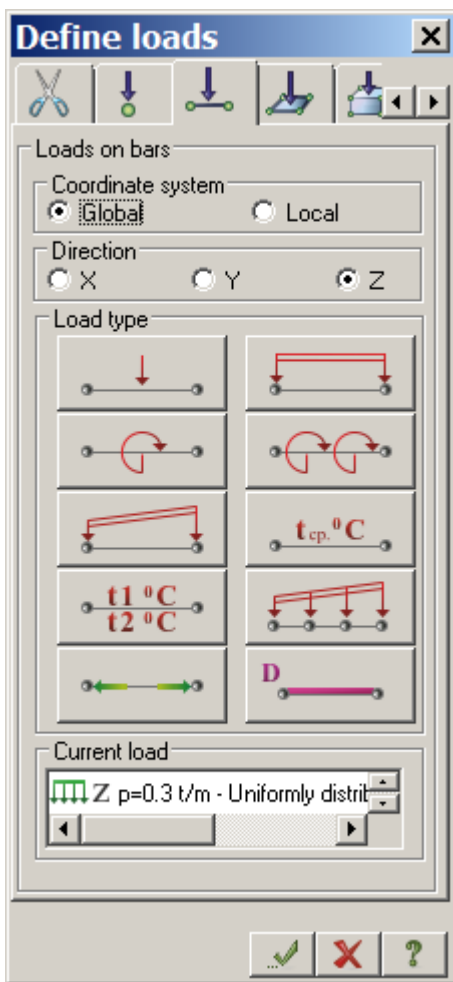

Figure 7.20 Define loads dialog box
- ⇒ In the **Define loads** dialog box (see Fig.7.20), specify **Global** coordinate system and direction along the **Z-axis** (default parameters).